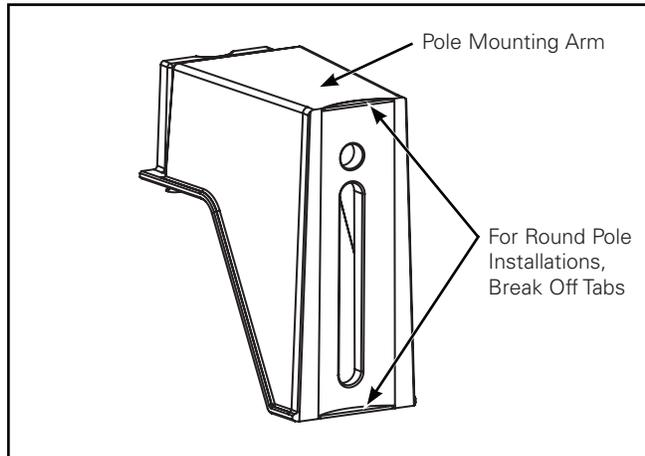
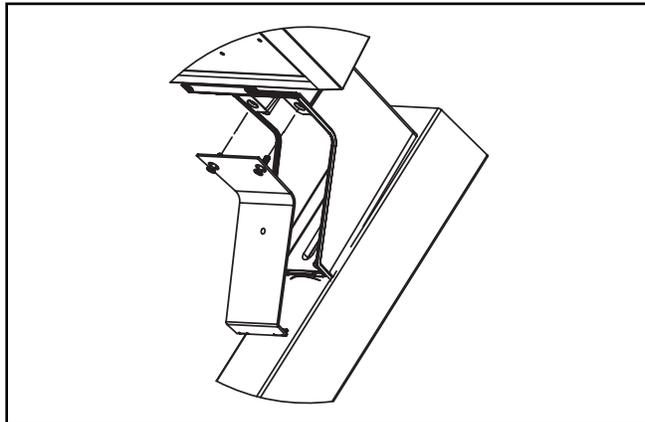

Figure 6.
Figure 12.
Field Installed Housing Side Arm - Accessory (Figure 6. – Figure 12.)
1. Pole mounting arm is designed for a square or round pole. Round pole installation will require the mounting arm break away tabs to be removed. Grab break away tab with pliers and break-away the tabs. (Figure 6.)
Note: Ensure the luminaire supply leads do not get pinched between cover and mounting arm. (Figure 12)